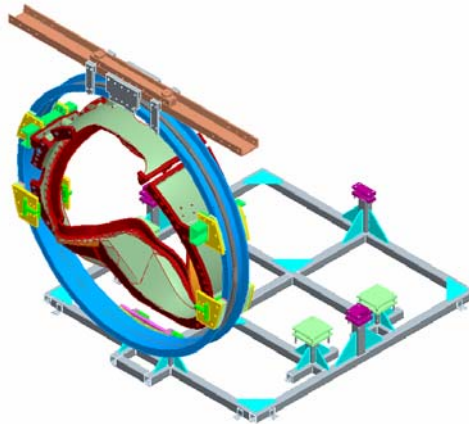

Figure 6-Rotate Casting/Ring Assembly
- 6.6.1 Using lift procedure **D-L-NCSX-984**, carefully raise the MCWFA until it is in the vertical position. (Figure 6-Rotate Casting/Ring Assembly) Transport and install MCWFA into the Station No. 1 turning fixture. Secure the MCWFA to the turning fixture.